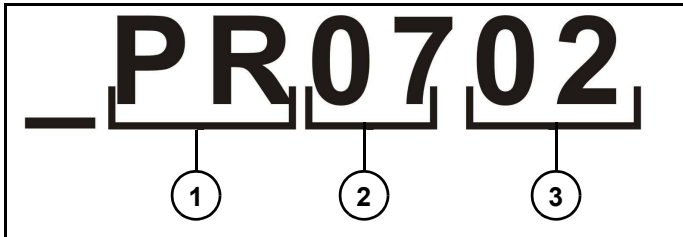

Figure 3
- Denotes manager (1) (Figure 3).
- Abbreviated key module name (2) (Figure 3).
- Year of release (3) (Figure 3).
- Abbreviated module name (1) (Figure 3).
- Year of release (2) (Figure 3).
- Month of release (3) (Figure 3).